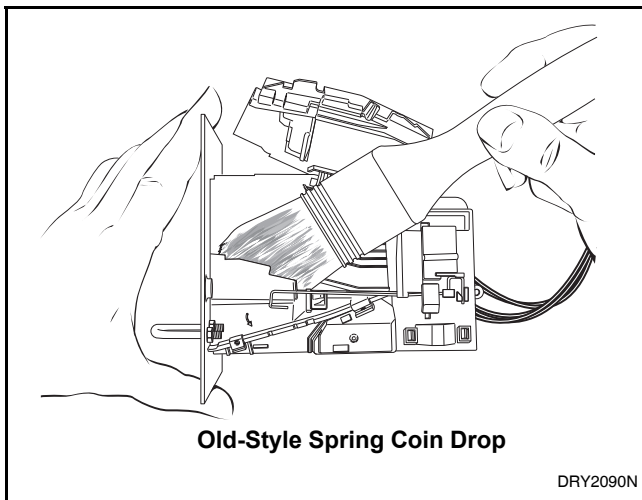

Figure 28
- d. Clean the coin path with a soft brush and wipe exposed surfaces with an alcohol moistened cloth. Refer to *Figure 28* or *Figure 29*.